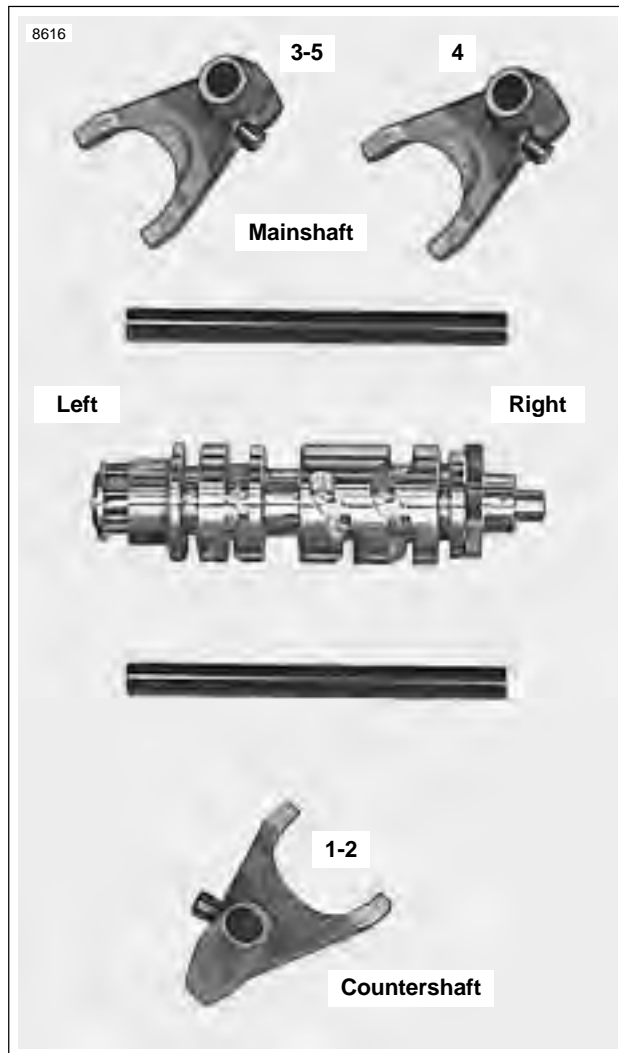

Figure 6-77. Shifter Forks, Drum and Shafts
- See Figure 6-77. Shifter fork design allows for one common part number for all three shifter forks. As the transmission runs, each shifter fork develops a certain wear pattern with its mating parts. For this reason, it is important that each shifter fork be reinstalled in its original location.